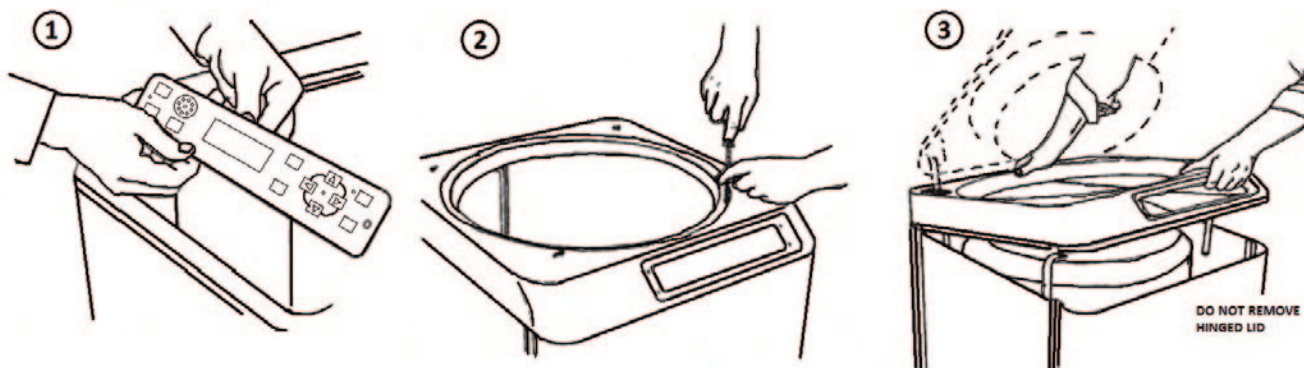

Figure 16.0 K Series Controller Removal
To install the controller, install the electrical supply connections panel to the back of the refrigerator. Feed the wiring harness from the electrical supply connections panel to the front of the refrigerator and through the opening to where the display will be mounted. Attach the electrical supply connections to the controller board. Be sure to follow all of the installation procedures for the thermocouple, sensor probes and solenoid valve before you reattach the cabinet top. Reattach the cabinet top with the (4) four screws that were removed (See Item 2 of Figure 16.0) out to remove the cabinet top. Carefully lower the display into the cabinet. Attach the display to the cabinet top with the (2) two supplied screws. Be sure that all of the necessary installation procedures have been completed before you start to fill the refrigerator. To start filling, refer to Filling the Refrigerator (Initial Fill) section of this manual.